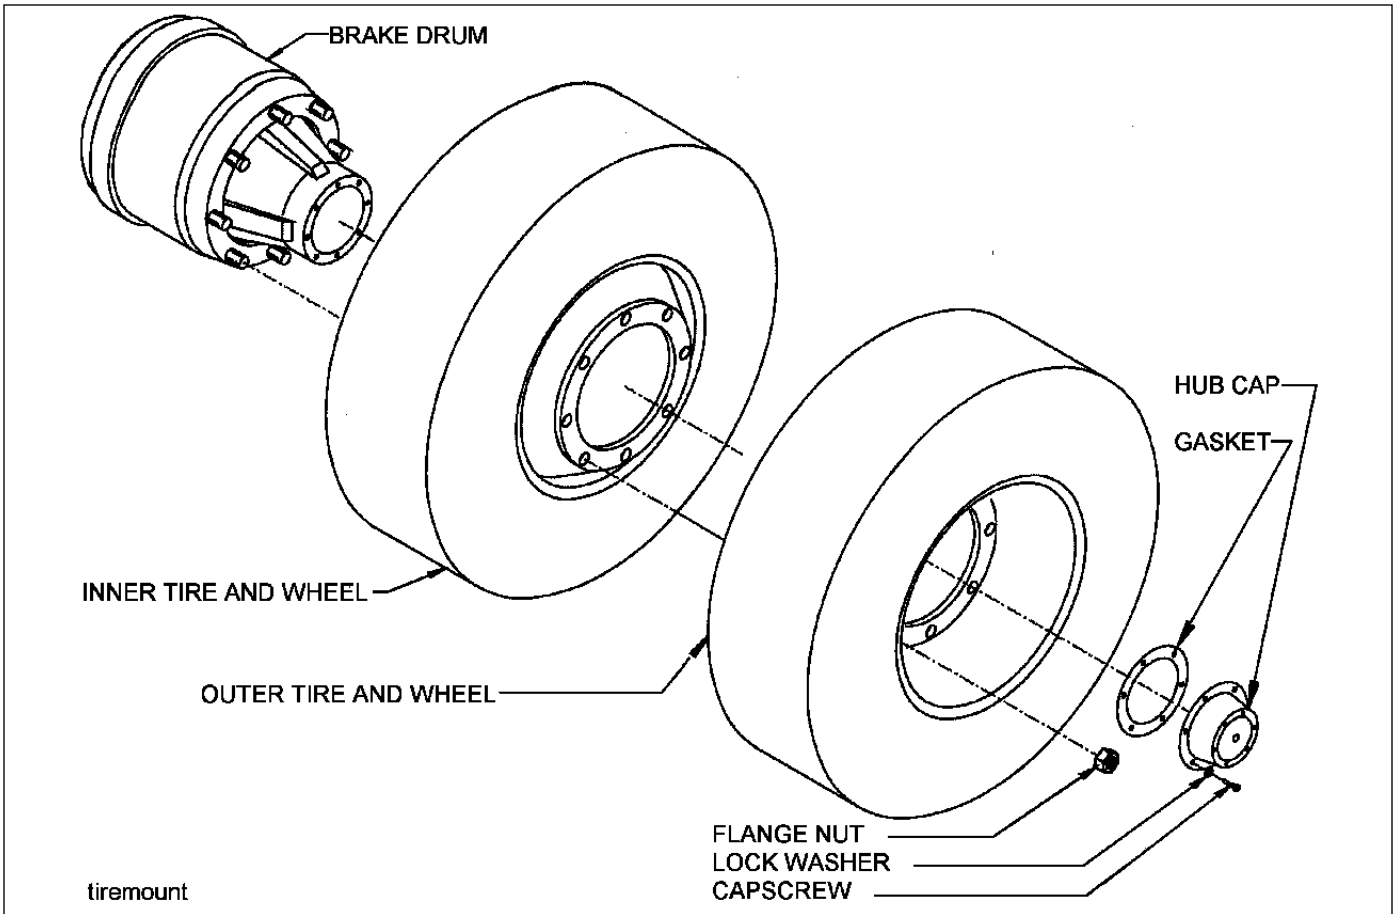

Figure 4-16: Mounting Tires and Wheels
1. Make sure that all mounting surfaces are clean and free of rust, dirt or paint. A wire brush may be used to clean these surfaces (**See Figure 4-16.**)